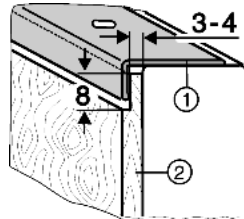

Fig. 10
- ▶ For thicker decor panels Fig. 10 (2), reduce their thickness to max. 4 mm, as illustrated.